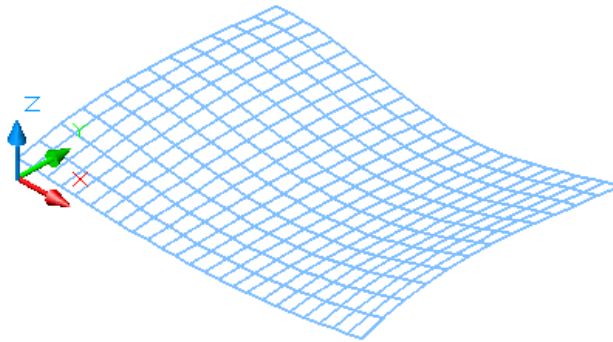

Figure Step 8
Step 8 Enter the commands shown below and your model will display as shown in the figure. (Figure Step 8)